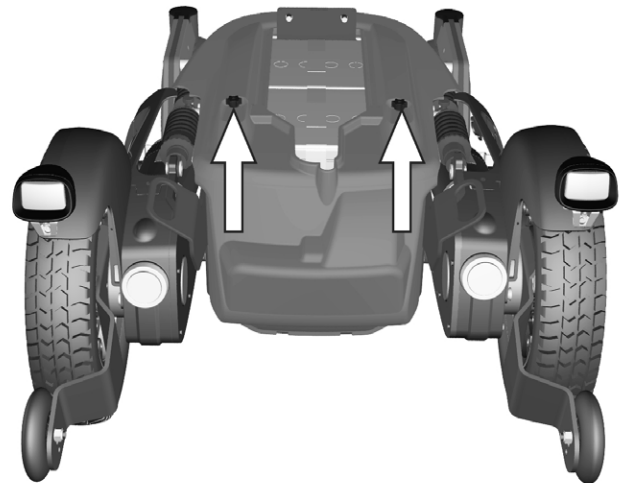

Figure 12. The chassis covers are fitted with two knobs.
6. Assemble the two knobs holding the chassis covers without tightening them. See fig. 12.